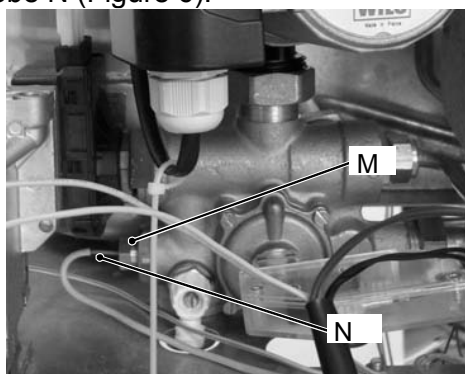

Figure 6
- 3) Unscrew the connection M and remove the probe N (Figure 6).